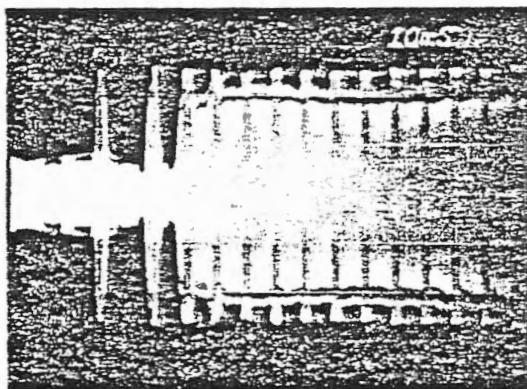

FIGURE 4 HEAD LOAD ACTUATOR TIMING
- e. Energize the Head Load solonoid and observe the read signal on the oscilloscope. The signal must be at 50% of full amplitude by 35Msec. Reference Figure 4.